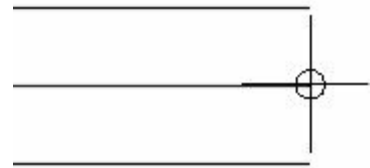
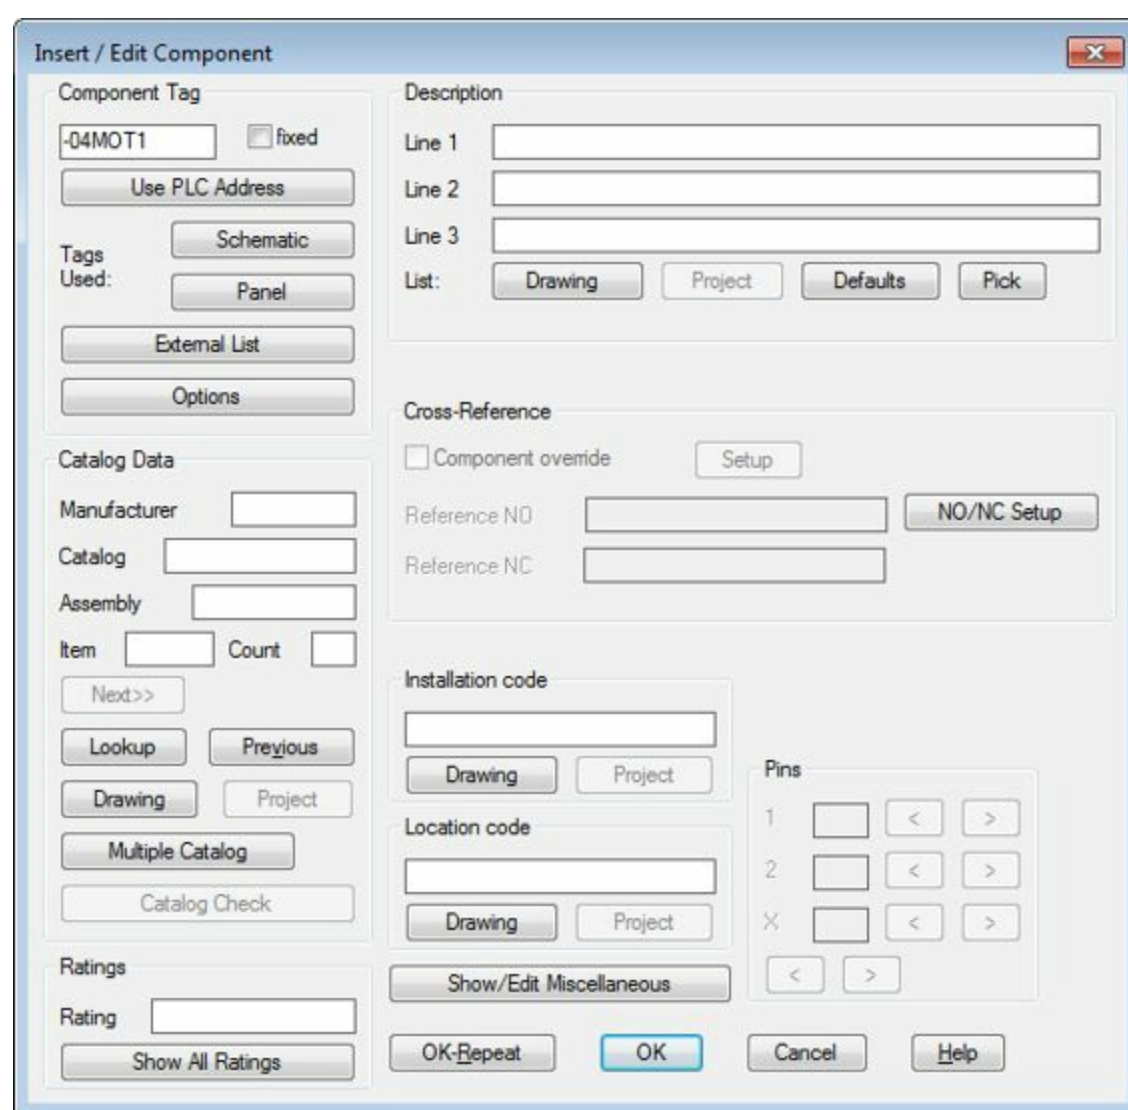

Figure-9. motor placement
Figure-10. Insert or Edit Component dialog box
- Click at the end point of the center line of the wire bus; refer to Figure-9. The motor will be placed and the **Insert/Edit Component** dialog box will be displayed; refer to Figure-10.